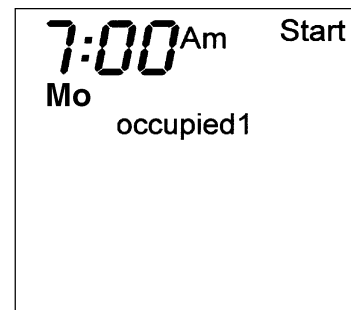

Fig. 4 — Start Time Display
7. The Start Time for Occupied 1 will be displayed. Use the UP ARROW and DOWN ARROW buttons to raise or lower the time until the desired Start Time is shown. Press the Mode button to continue. See Fig. 4.